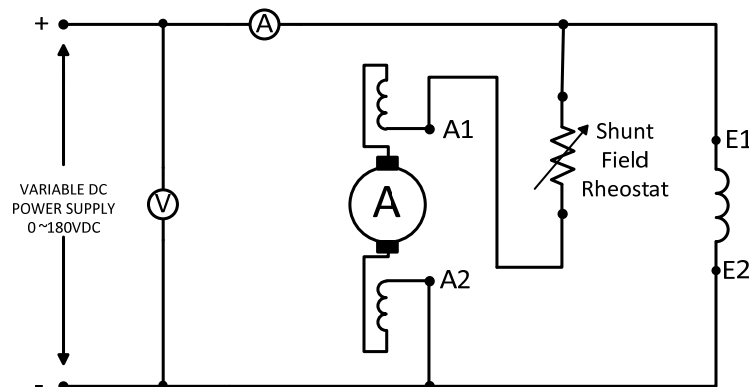

Fig. 5-1: Circuit diagram for armature speed control
2. Construct the circuit shown in Fig 5-1.